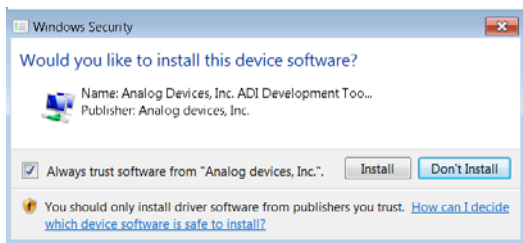
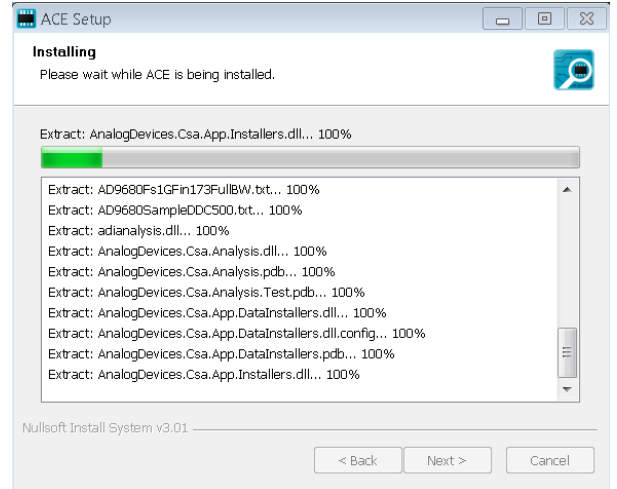

Figure 6. Windows Security Window
Figure 7. Installation in Progress
- The **Windows Security** window opens (see Figure 6). Click **Install**. Figure 7 shows the installation in progress. No action is required.